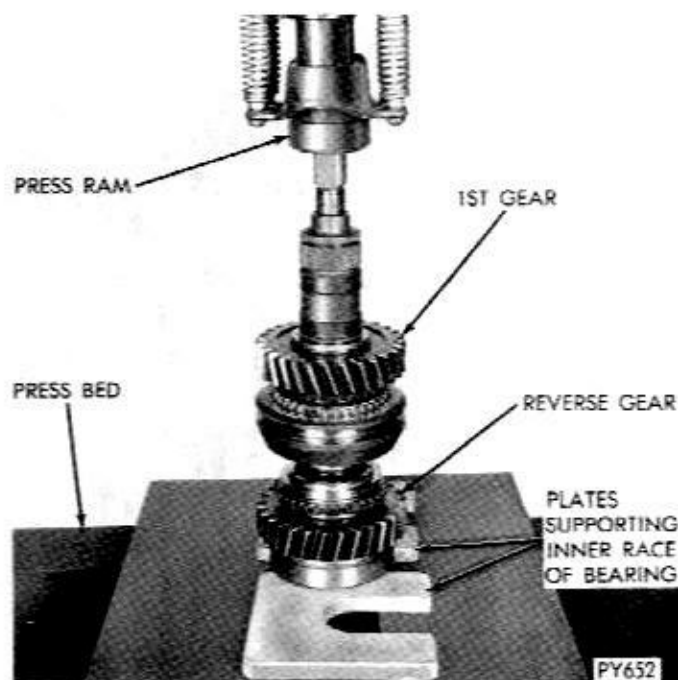

Fig. 31—Using Press to Install Mainshaft Bearing
(18) Support inner race of bearing and press shaft through to shoulder (Fig. 31).